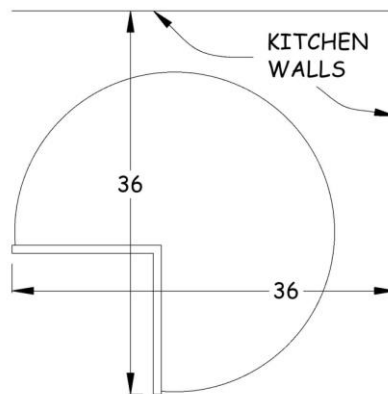

Figure 17-3. Corner Cabinet Installation
2. Set the corner carousel unit in place with the faces 36" from each wall as shown in Figure 17-3.